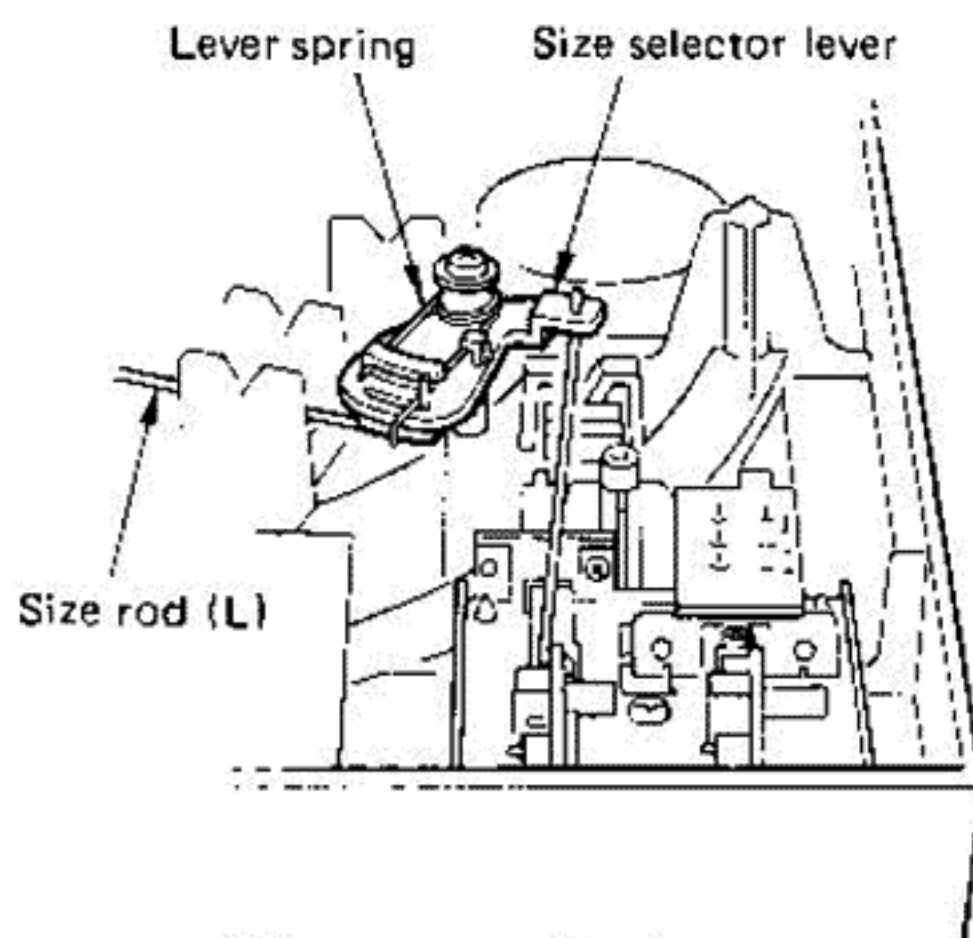

Fig. 4
- f. Remove the size rod. (L)
- * Be careful for the position of spring when mounting. (Refer to fig. 4)